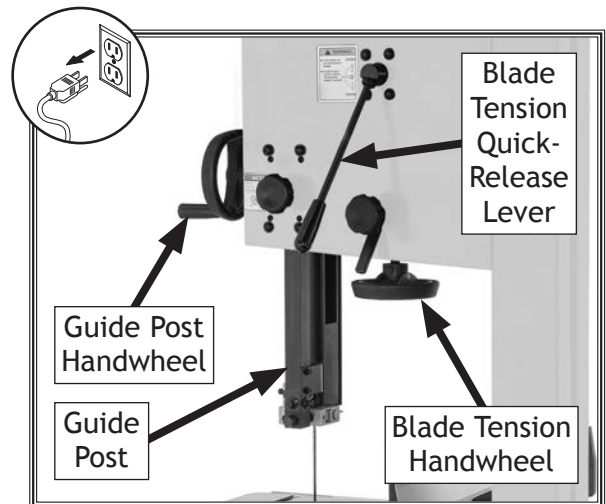
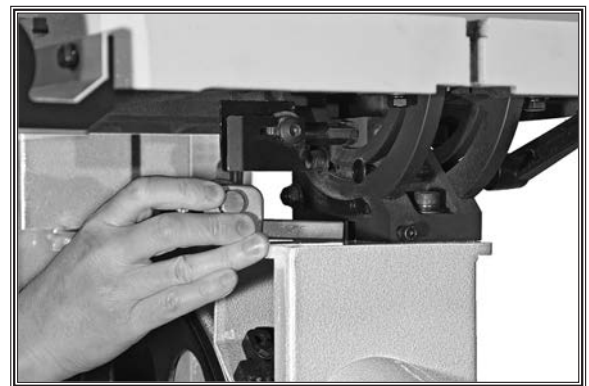

Figure 40. Blade tensioning controls.
Figure 41. Location of lower roller discs.
3. Use handwheel to fully raise guide post (see **Figure 40**), and move upper and lower roller-disc guides and support bearings away from blade (see **Figure 41**). Refer to **Page 33** for more information.